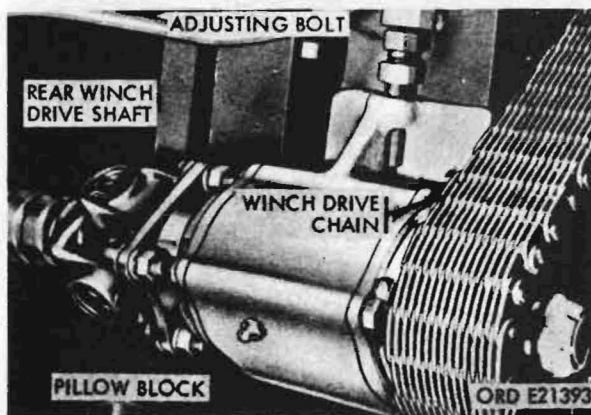

Figure 147. V-17A/MTQ pillow block
- (5) The rear winch is driven by winch drive chain from the V-17A/MTQ pillow block assembly (fig. 147) mounted on a supporting frame secured to underside of winch mounting frame. Pillow block assembly, driven by rear winch drive shaft from transfer power takeoff, also serves to adjust tension on winch drive chain.